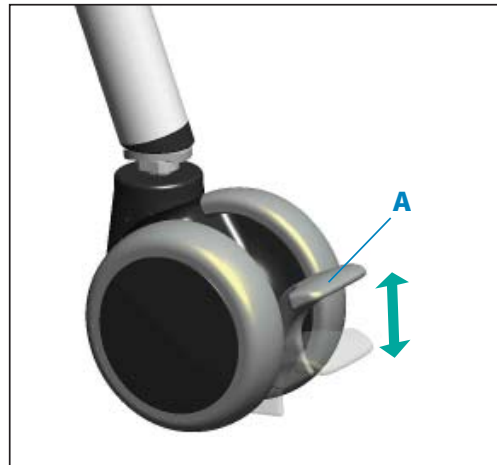

Figure 19b
To apply brake, step down on pedal (A) protruding from caster wheel (see Figure 19b). To release brake, lift pedal up.